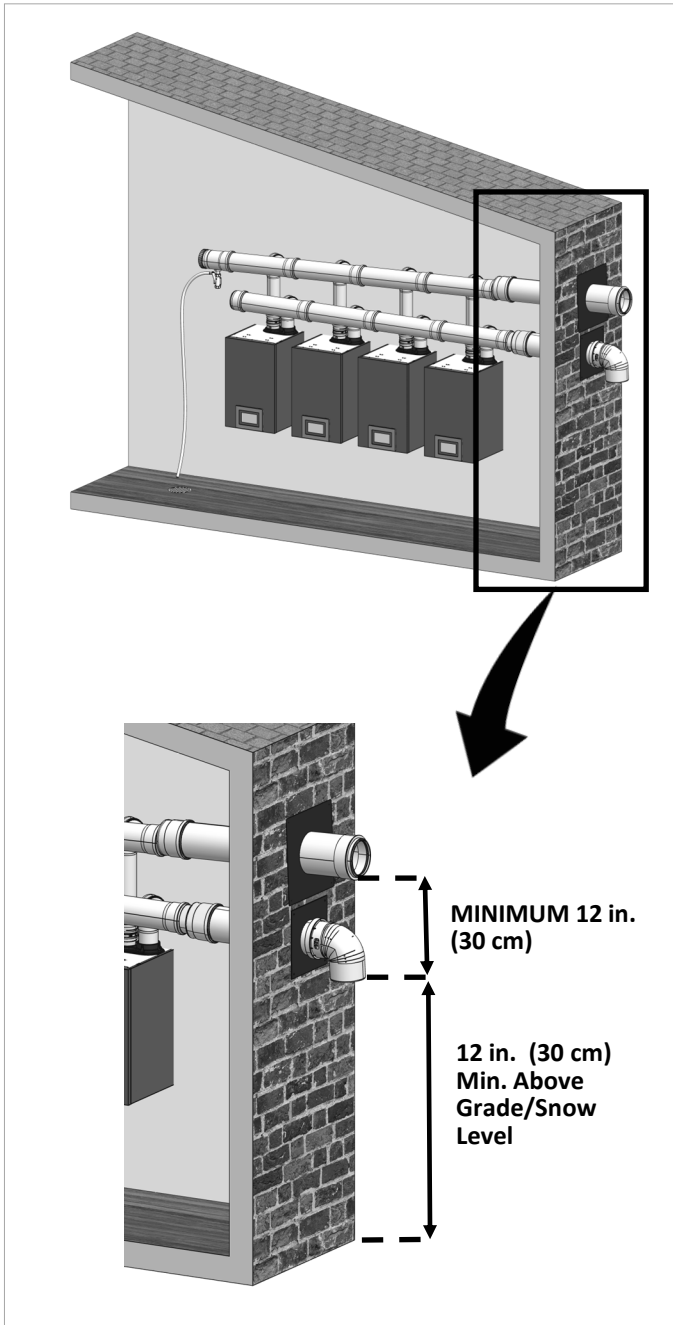

Fig 18. Exhaust and Combustion Air Termination Clearances
- 12 in. (30 cm) minimum vertically from bottom of combustion air termination to ground or anticipated snow line (Fig 18 and 19).
- 12 in. (30 cm) minimum from edge of exhaust termination to edge of combustion air termination (Fig 18 and 19).